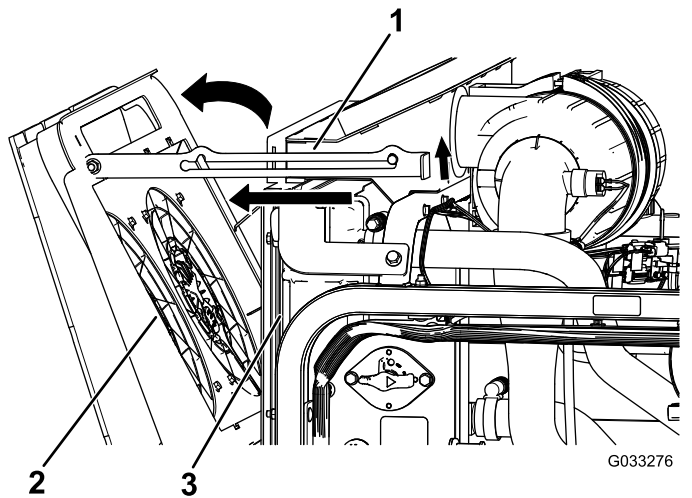

Figure 119
2. Pivot the engine-cooling fans rearward of the radiator and lock the prop rod into the notch (Figure 119).